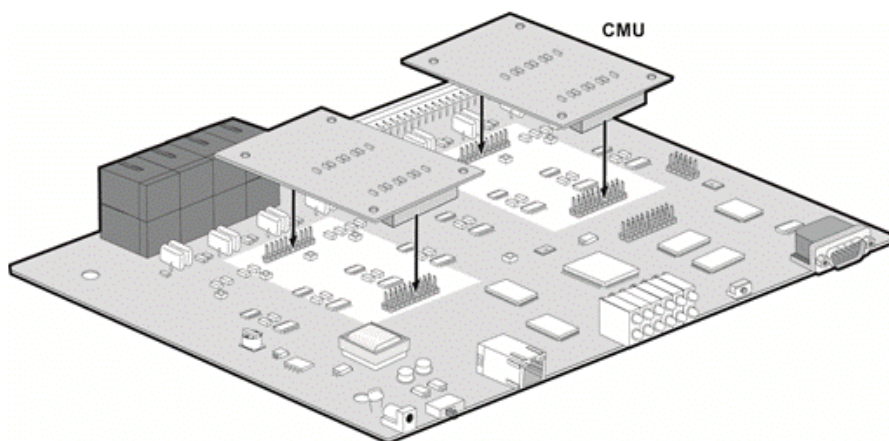

Figure 6.4-2 Installing a CMU module with LGCM8
To install the CMU on an LGCM, first remove all connections to the LGCM module. Then, follow the instructions below referring to Figure 6.4-1 and Figure 6.4-2.
4. Repeat steps 2 and 3 to install the second CMU for a LGCM8, Figure 6.4-2